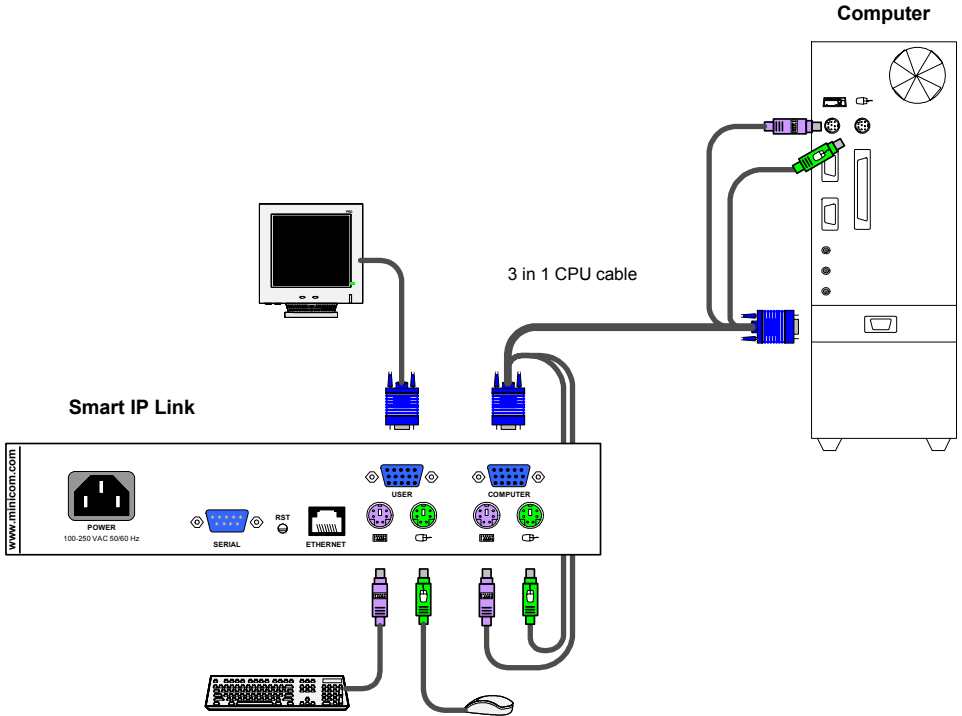
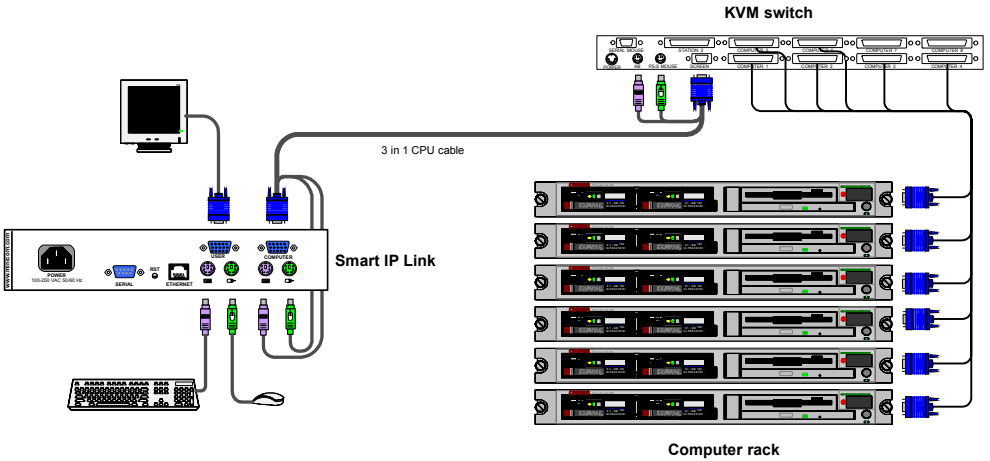

Figure 4 IP Link connections to a computer
Figure 5 IP Link connections to a KVM switch
4. You can connect a local KVM console to the IP Link and work on the host computer. Figure 4 and Figure 5 illustrate the connections to a computer and KVM switch respectively.